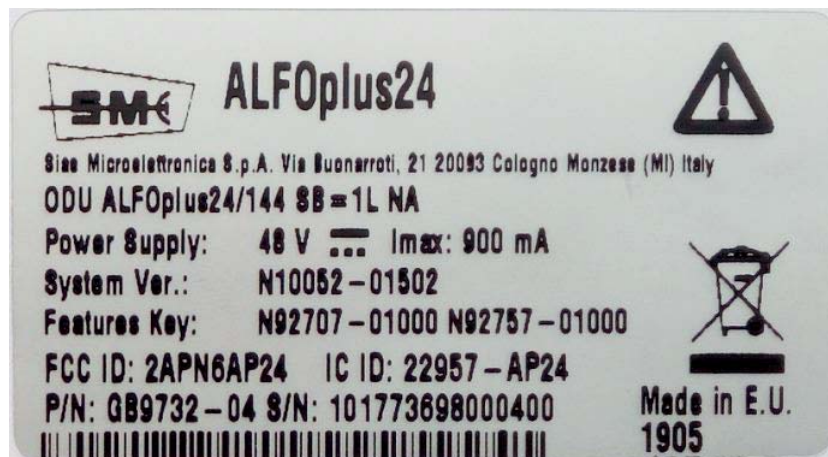

Fig.124 - Label attached on ODU
- you must have 2 ODUs, the first one working in the lower selected subband and the second one working in the correspondent higher subband; e.g. 1L-1H, 2H - 2L, etc... (see Fig.124).